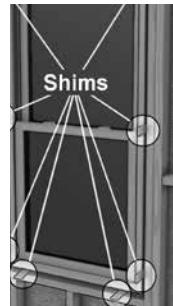

Figure 3
- (Required)** Square the window side to side, shimming if necessary (**Figure 3**) to maintain square and plumb jambs. Make sure the window sill and head are level and not crowned and the jambs are not bowed. If your window is a horizontal sliding window, make sure each meeting rail is supported. **▲ NOTE: Over-shimming can cause bowing and prevent proper window operation.**